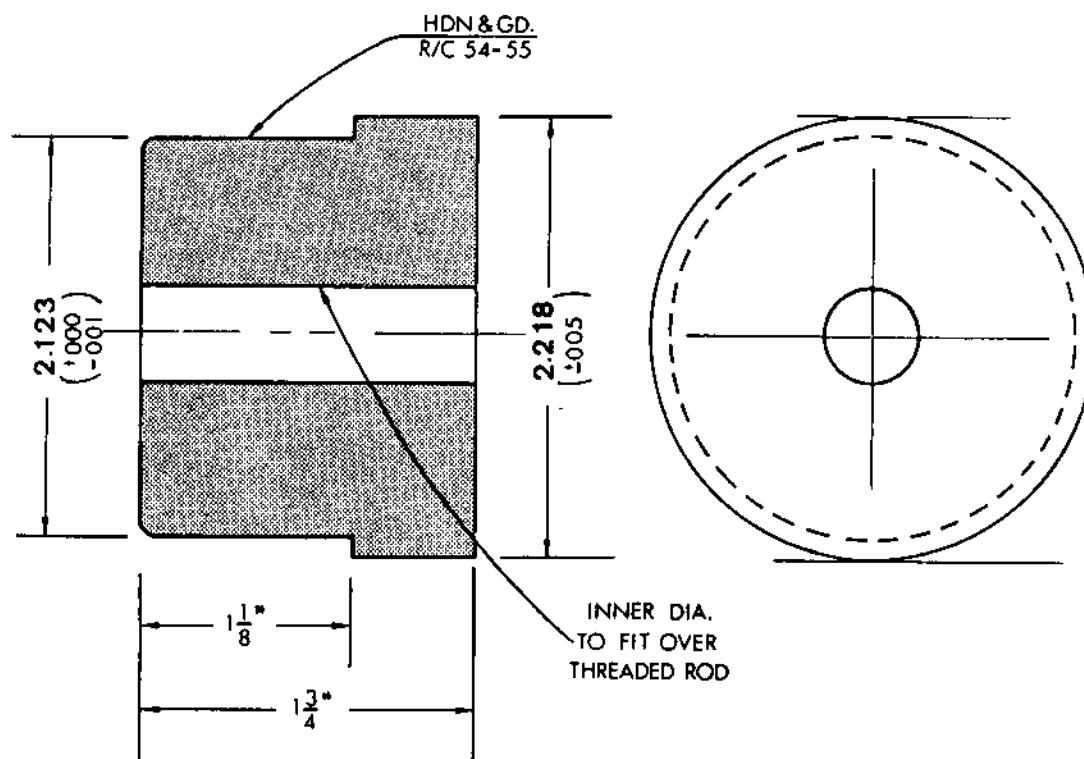

Figure 63 — Bearing Removal Tool
1. Use bearing removal tool illustrated in Figure 63.